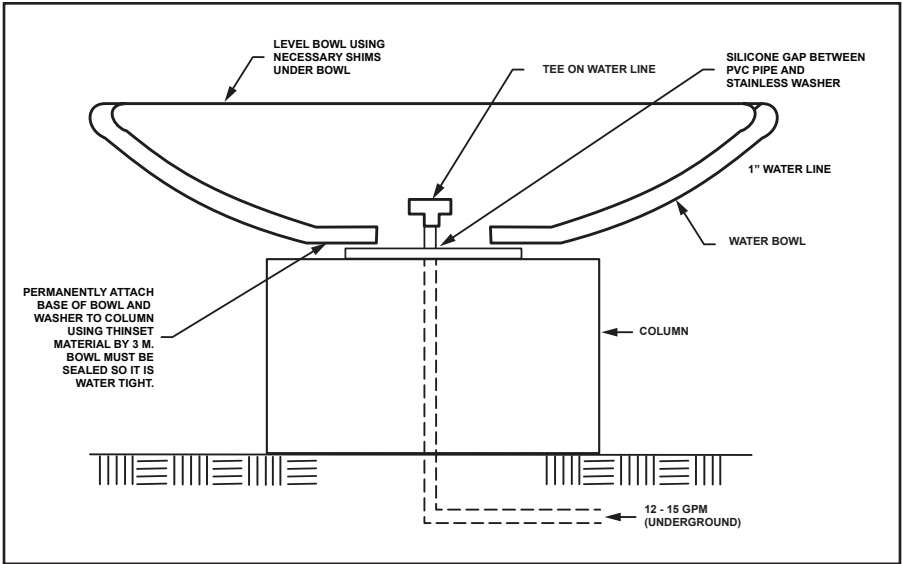

Figure 4. Mounting
3. Level the Water Bowl using shims under the base of the bowl. See Figure 4.
4. Permanently secure the base of the bowl and the stainless washer to the cap using 3M Scotch-Weld Epoxy Adhesive 2216 B/A. See Figure 4.
5. Silicone the gap between the stainless washer and the PVC water pipe. See Figure 4.
6. Cut the PVC water line to the desired height, and add a "T" fitting to the water pipe. See Figure 4.